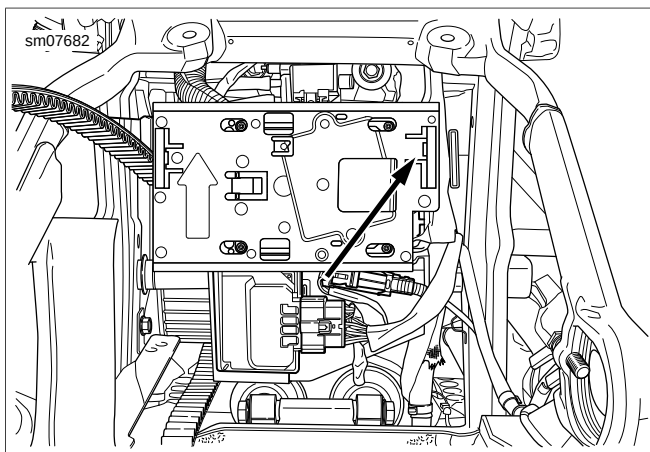
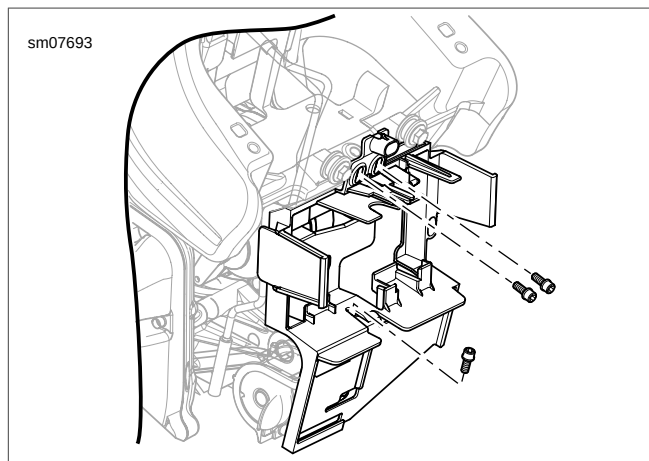
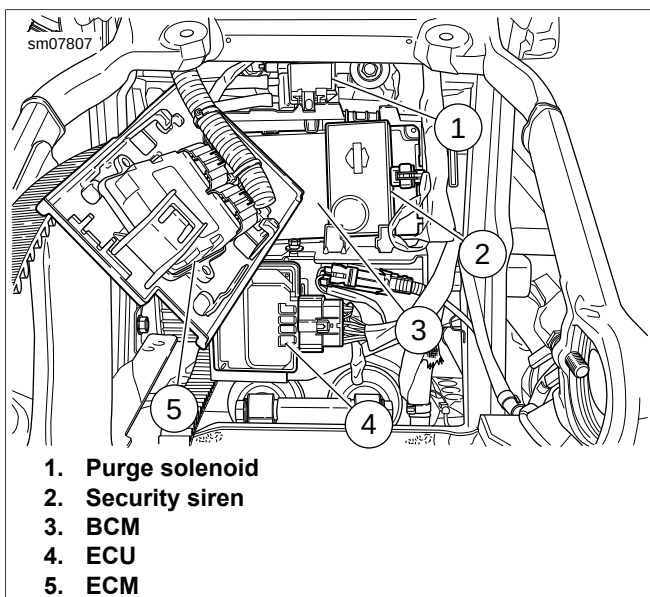

Figure 7-3. ECM
Figure 7-5. Rear Electrical Panel Fasteners
Figure 7-4. Rear Electrical Panel
- See Figure 7-3. Press in on tab and pull ECM panel away from latch.
- See Figure 7-4. Remove security siren (2), BCM (3), ECU (4) and ECM with panel (5).
- Detach purge solenoid (1) from rear electrical panel.
- See Figure 7-5. Remove three fasteners securing rear electrical panel to frame.
- See Figure 7-5. Install three fasteners securing rear electrical panel to frame. Tighten to 36-60 in-lbs (4.1-6.8 Nm).
- See Figure 7-4. Attach purge solenoid (1) to rear electrical panel.
- Install BCM (3), security siren (2), ECU (4) and ECM (5) with panel.
- See Figure 7-3. Push ECM panel forward and engage latch.